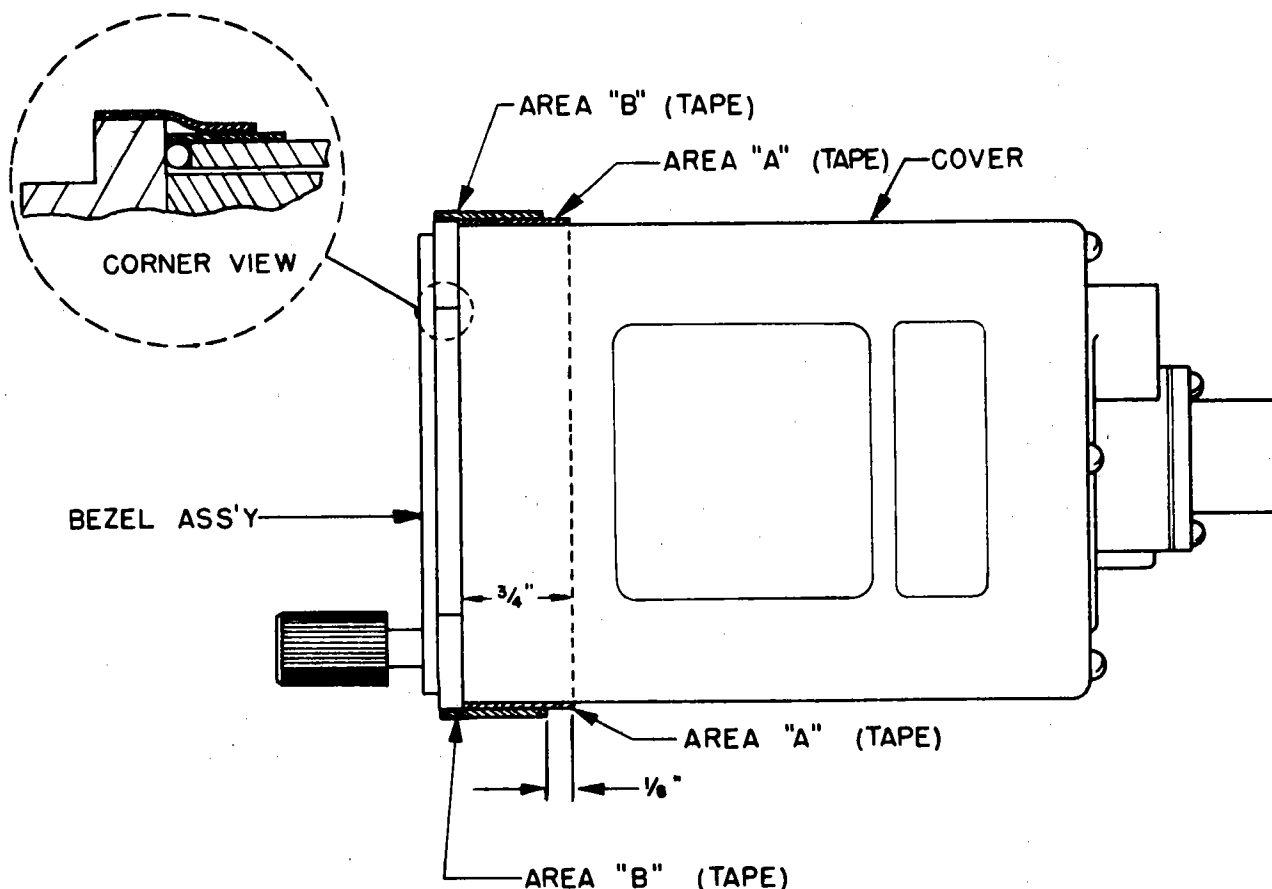

Figure 1. Application of Pressure Sensitive Tape.
2. Refer to Figure 1 and apply one wrap of pressure sensitive tape, 3/4 inch wide, around the horizon as shown in Area "A". Pull the tape as it is being applied so that a slight amount of stretching occurs. The edge of the tape must butt against the rear surface of the bezel assembly and lay firmly against the cover. Overlap the tape approximately two inches.
3. Again refer to Figure 1 and apply one additional wrap of the tape over that just applied as shown in Area "B". Apply this wrapping so that the edge of the tape is flush with the front surface of the bezel assembly. Stretch as required so that the tape lays smoothly around the irregular corners of the bezel. Overlap the tape approximately two inches.